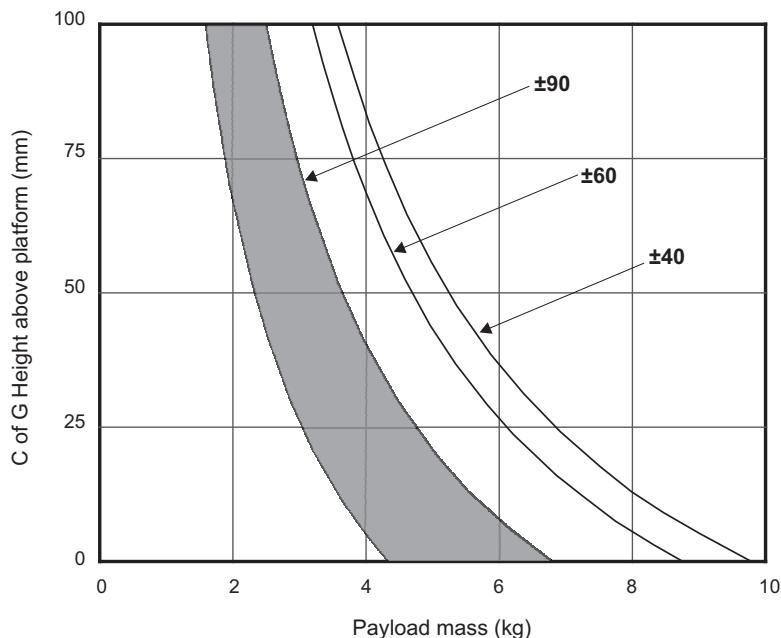

Fig. 3 Counterbalance chart
Capacity range @ 55 mm C of G - See balance chart (Fig. 3).....	2.1–5.0 kg (4.6–11 lb)
The balance system is easily adjusted using the Perfect Balance knob (10) located on the rear of the head. The head supports payloads weighing between 2.1 to 5.0 Kg (4.6–11 lb). Maximum and minimum payloads that can be balanced and tilt ranges are dependent on the weight of the camera, accessories and on the Centre of Gravity (C of G) height. The counterbalance chart (Fig. 3) shows the range of load and C of G height that can be maintained in balance. The shaded area of the chart corresponds to those load/C of G combinations that can be balanced over the full tilt range. The areas to the right indicate the progressively reducing tilt range with greater load and higher C of G. Where a load/C of G combination falls outside of the chart it will be necessary to increase or decrease the weight or the C of G height—if possible—to enable the head to balance the load.
The counterbalance chart (Fig. 3) illustrates the relationship between load and camera Centre of Gravity (C of G) height for the head. The chart can be used to ascertain the suitability of the head for any given combination of camera, lens and accessories. The shaded area of chart corresponds to those load/C of G combinations that can be balanced over the full tilt range. The areas to the right indicate the progressively reducing tilt range with greater load and higher C of G. Where a load/C of G combination falls outside of the chart it will be necessary to increase or decrease the weight or the C of G height to enable the head to balance the load.
NOTE: Maximum tilt angle is less than 90° for heavy payloads with a high C of G - refer to the counterbalance chart (Fig. 3).